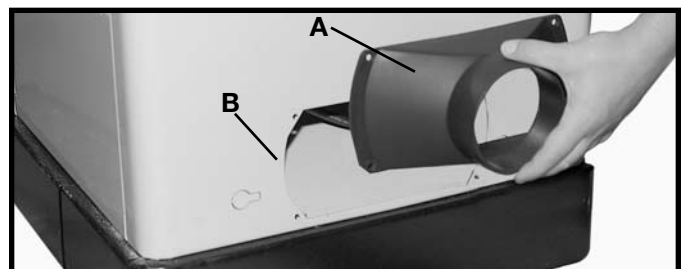

Fig. 38
The Unisaw is supplied with a dust chute connector to provide a means of connecting a 4" diameter dust collector hose to the machine. Align the four holes in the dust chute adapter (A) Fig. 38, with the four holes in the back of the saw cabinet (B) and attach the dust chute adapter with four #10 x 1/2" sheet metal screws. **NOTE: DO NOT MOUNT THE DUST CHUTE ADAPTER UNLESS A DUST COLLECTION SYSTEM IS USED IN CONJUNCTION WITH THE SAW, FOR THE DUST CHUTE ADAPTER WILL RESTRICT THE GRAVITY FEED OPENING FOR SAW DUST REMOVAL.**